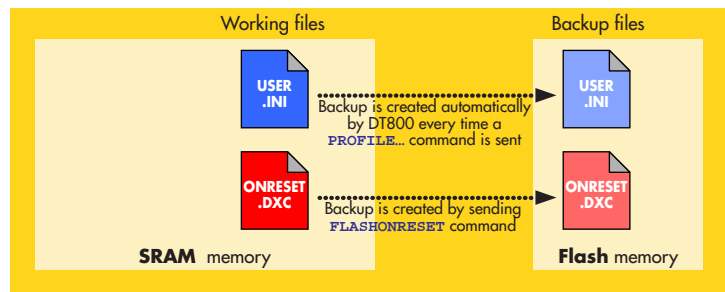

FIGURE 70 Protecting startup files 1 — backups are created
- an optional mechanism for protecting its ONRESET.DXC (startup job) file by making backup copies of these in Flash memory. (The original/working files reside in SRAM memory.) See Figure 70.